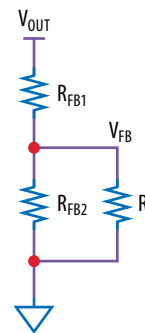

Figure 2. Output voltage adjustment R₁ and connection to the EPC9143 voltage feedback circuitry.
3. The output voltage of the EPC9143; 1/16th brick module can also further be trimmed by adjusting R₁. R₁ is connected between FB and GND, as shown in figure 2. V_{out} can be calculated as follows: